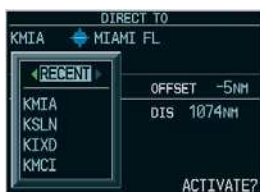

Figure 7-10 Recently Entered Waypoints List (PFD)
- 3) Turn the small **FMS** Knob to the right to display the 'RECENT' waypoints as shown in Figure 7-10.